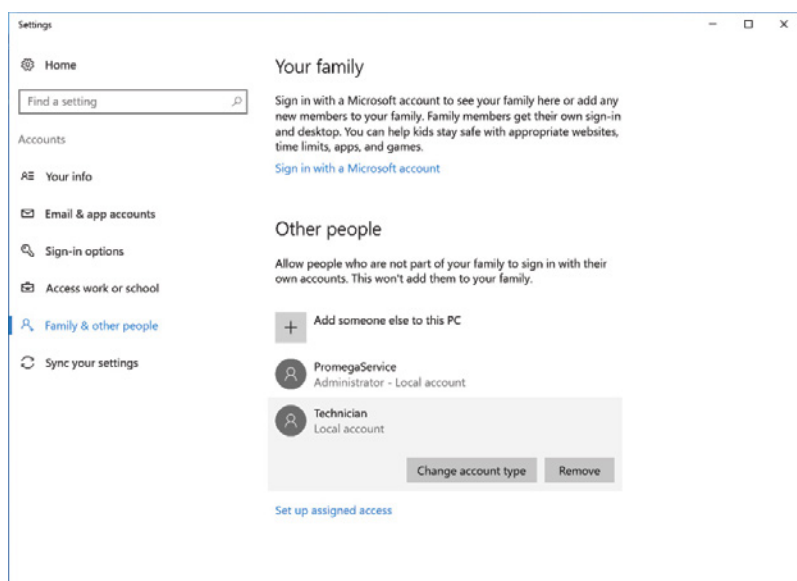

Figure 58. Removing an account. Select any of the listed Windows® user accounts to access the ability to remove an account.
8. Under the *Other people* heading, select the user account you wish to remove to open options for that user (Figure 58).